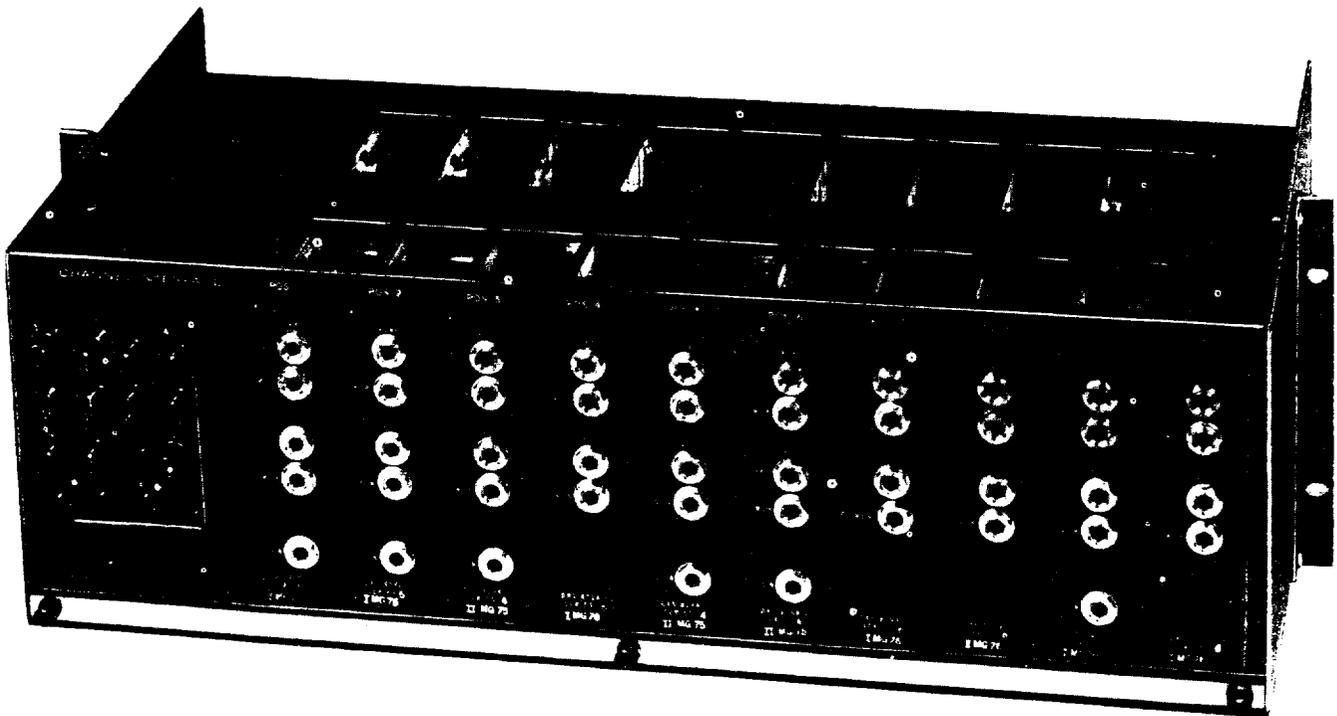

Fig. 14—46D1 Data Mounting—Front View
3.07 Figures 14 and 15 show the front and rear views of the 46D1 data mounting. Install DAS 829 type in the 46D1 data mounting as follows:
(a) Release the three captive fasteners on the 46D1 data mounting (Fig. 14) by pulling out-
- (a) Release the three captive fasteners on the 46D1 data mounting (Fig. 14) by pulling outward; then pull the retaining bar clear of the card slots.